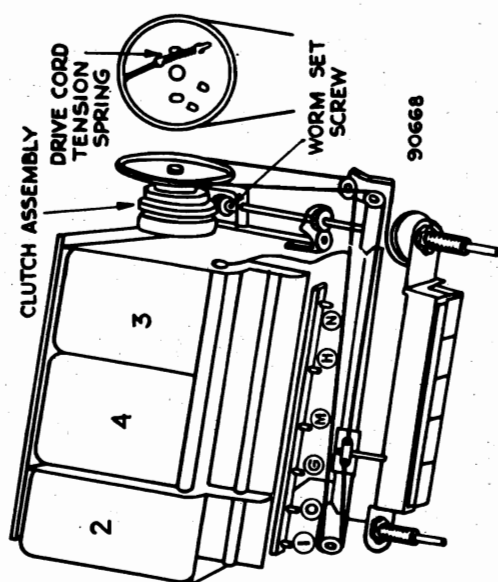

FIG. 5--DIAL CORD LAYOUT
- (f) Change the frequency of the signal generator to 1560 K.C. and turn the oscillator core screw (Illus. G, Fig. 5) clockwise until maximum output is obtained.
- (h) Adjust the core screws (Illus. H & I, Fig. 5) for maximum signal output.
- (m) Adjust antenna and R.F. cores (Illus. H & I, Fig. 5) for maximum output.
- (c) Tune the receiver so that the dial pointer is at the extreme high frequency end of the 31 meter band and adjust iron core screws (Illus. M, N & O, Fig. 5) so that each core end is flush with the coil forms, which extend beyond the shield.